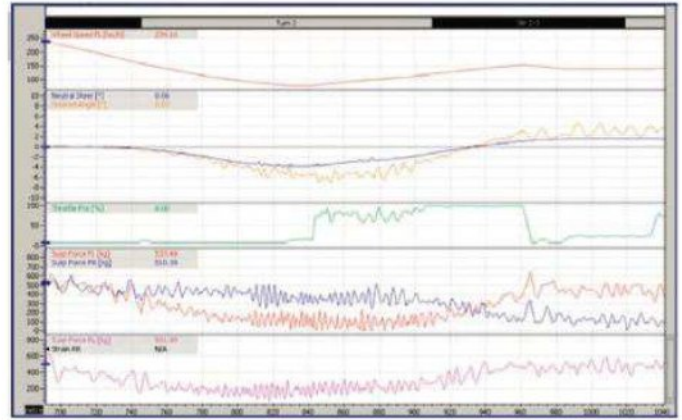

Figure 4: tyre load variation through a corner
Also, remember that tyre load variation counts almost as much as the average tyre load through a corner. This is illustrated in figure 4. As we can see, the variation shown here is quite significant, and we all know tyre load is a direct indicator of how much force we have available from the tyre. While this is a bumpy corner, it nonetheless has massive implications for how you drive the corner. You would have to be pretty brave to say you could approximate this using
Transient lap time simulation uses the full equations of motion of the car to nail down both the transient and steady-state behaviour of the car. As we can see from figure 4, the two are very closely related and you can not take one into account without the other. To give you a taste of what you are dealing with, equation (4) presents the full equations of the bicycle model of the racecar.
There are some who might say that approximating this with an average tyre load will suffice for performance simulation, but does this really add up? To find out, let's return to figure 4, in light of what we have just discussed. The average tyre
load at mid-corner in figure 4 is approximately 400kg for the outside front and 120kg for the rear. Yet at mid-corner, we are seeing minimum values of 350kg for the outside tyre and 30kg for the inside as we go over the bumps. To quantify this, let's
Another consequence of using transient lap time simulation is that it is not ultra-reliant on grip factors. This is a direct consequence of what we discussed using figure 4 and equations (5) and (6). One of the biggest adjustments that users transitioning to ChassisSim have made is the fact that grip factors in ChassisSim are trim tabs, as opposed to absolute necessities. This is because, since we are taking into account bumps and other transient effects, we don't need fudge factors to get the cornering speeds to match up.